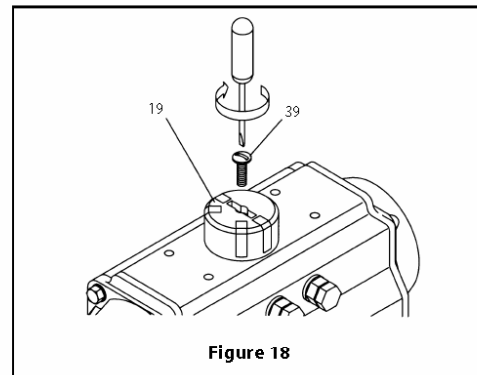

Figure 18
- B. If the valve is not in the correct clockwise position, turn the right stop adjustment screw (2) IN to reduce actuator travel, or OUT to increase actuator travel.
- C. When the correct clockwise position is obtained, hold the adjusting screw (2) stationary while tightening the lock nut (4).
- E. If the valve is not in the correct counter-clockwise position, turn the left stop adjustment screw (2) IN to reduce actuator travel, or OUT to increase actuator travel.
- F. When the correct counter-clockwise position is obtained, hold the adjusting screw (2) stationary while tightening the lock nut (4).
6. Position Indicator (19, 39) Assembly. (Figure 18):